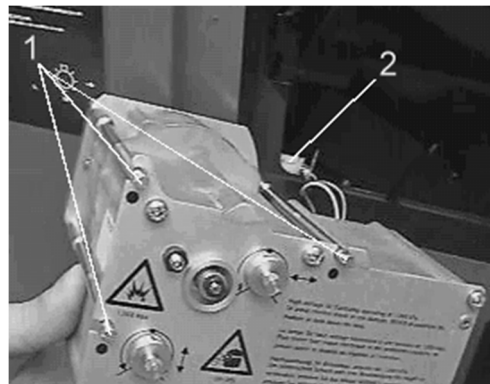

Figure 4. Lamp module showing 1) Bolts and 2) Plug
- 5 Loosen the three bolts marked with a black dot (labeled '1' in Figure 4), until the lamp module is free to move through the front opening.
- 8 Squeeze the clip on the plug (labeled '2' in Figure 4) and remove it from its socket